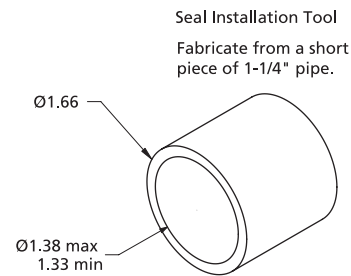

Figure 3 - Seal Install Tool
2. Replace the O-Ring inside the cavity (Ref. No. 11). Using seal installation tool (see Figure 3), press in new mechanical seal being careful not to scratch the polished carbon face.